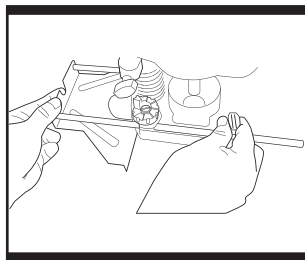

Fig. 8
6. FITTING THE PARALLEL GUIDE (See Fig. 8)